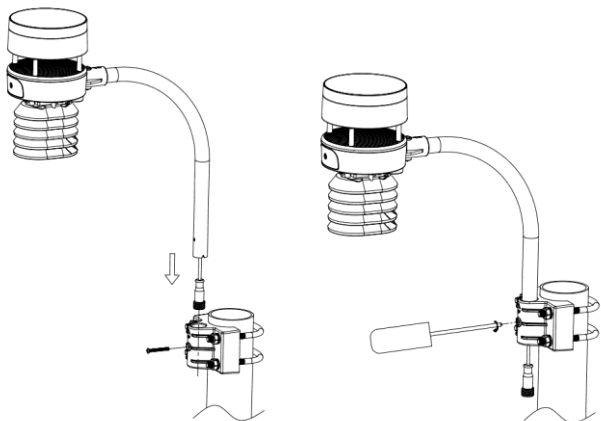

Figure 7: Sensor package mounting diagram 6-5
5. Insert the arm tube into the base as Figure 7. Be sure to line up the small hole in the arm with the holes in the base. Insert the machine screw through the holes in the base and arm. (if you don't need to